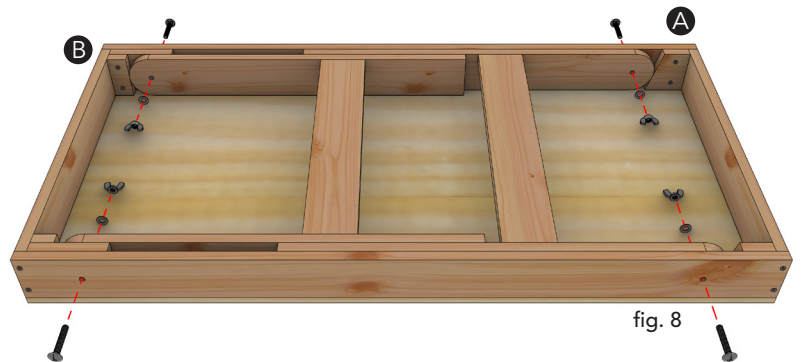

fig. 8
See fig. 8 & 9
- Use the figures 8 & 9 as a guide to position legs in the tabletop.
- With legs (F/G) in position, use the holes in the legs as a guide to pre-drill the rail sides (H).
- To attach each leg unit, insert a wing nut (J) with a washer (L) and a carriage bolt (K) as shown.